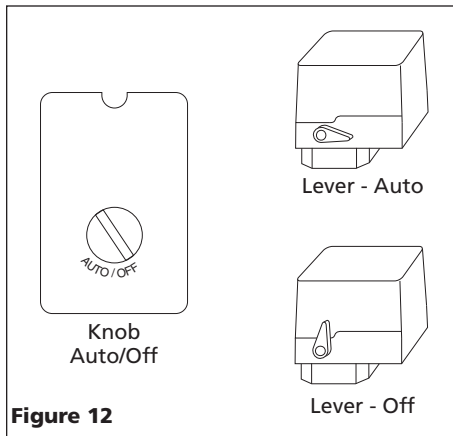

Figure 12
3. Move pressure switch lever or knob to the OFF position and plug in power cord. Move pressure switch to the AUTO position to run the unit (see Figure 12).